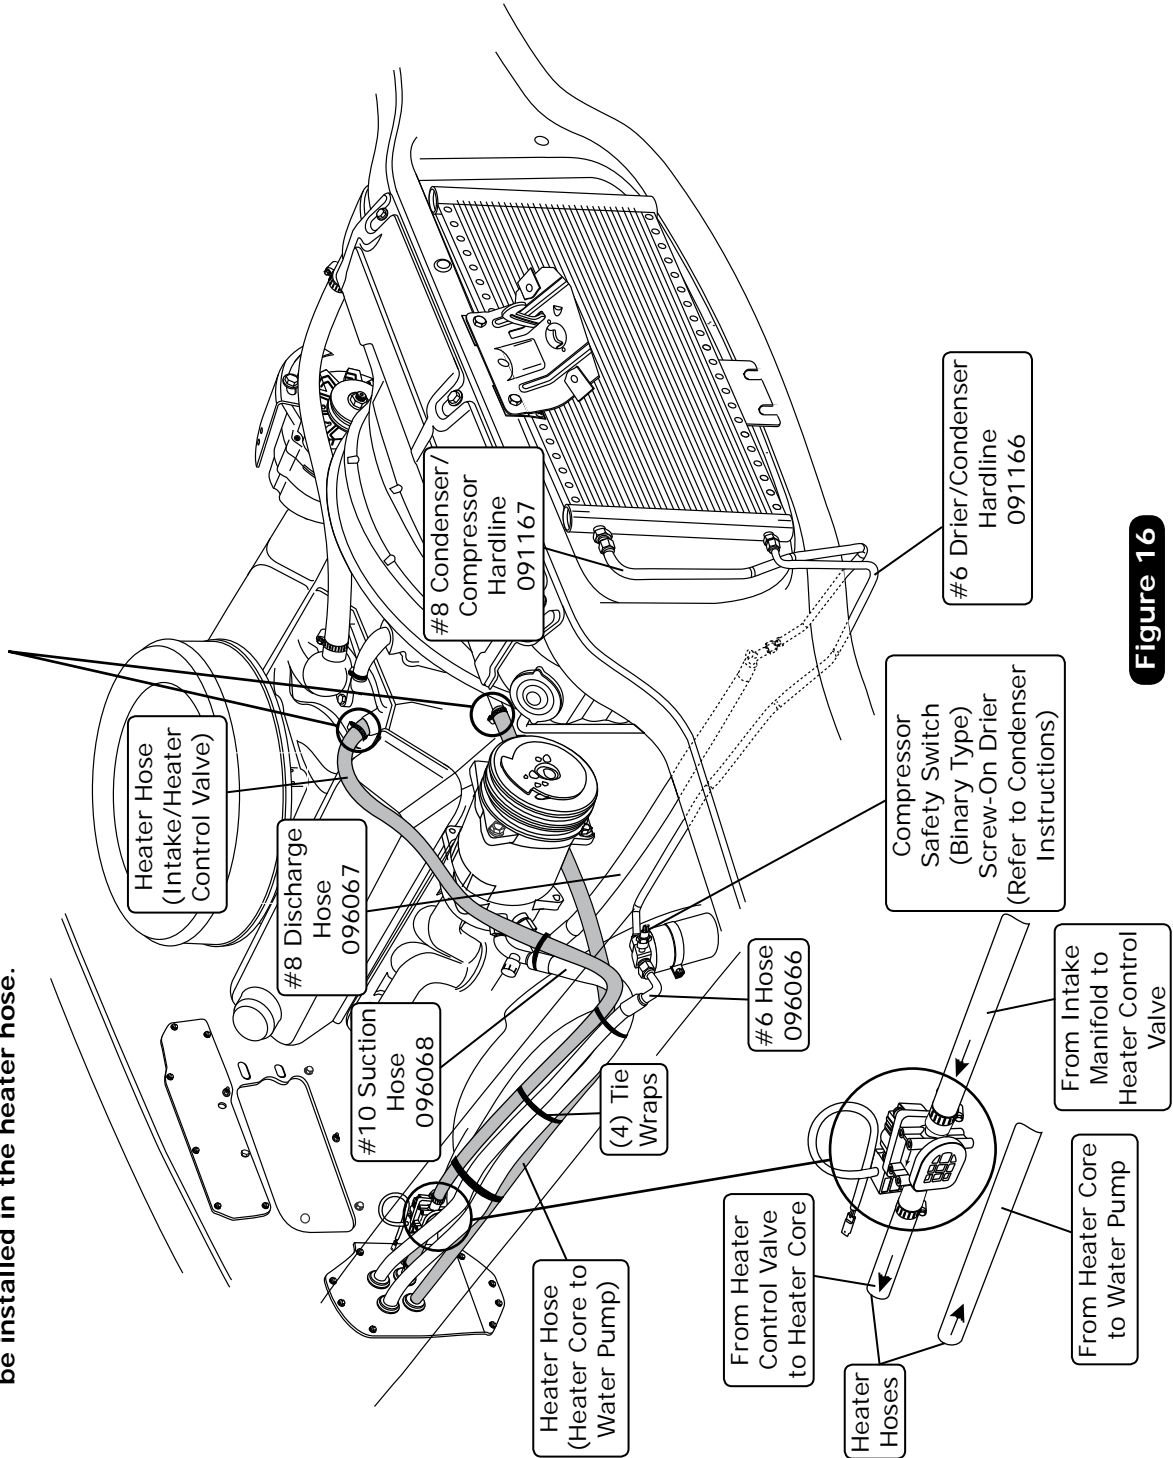

Figure 16
1. Locate the #8 compressor A/C hose. Lubricate (2) #8 O-rings (See Figure 15, above) and connect the 90° fitting to the #8 discharge port on the compressor. Then route the 45° fitting with service port to the #8 condenser hardline coming through the core support (See Figure 16, Page 15). Tighten each fitting connection as shown in Figure 15, above.
2. Locate the #10 compressor A/C hose. Lubricate (2) #10 O-rings (See Figure 15, above) and connect the 45° fitting with service port to the #10 suction port on the compressor. Then route the 90° fitting to the #10 fitting on the evaporator (See Figure 12, Page 13, and Figure 16, Page 15). Tighten each fitting connection as shown in Figure 15, above.
3. Locate the #6 evaporator A/C hose. Lubricate (2) #6 O-rings (See Figure 15, above) and connect the 90° fitting to the drier. Then route the 90° fitting to the #6 fitting on the evaporator (See Figure 12, Page 13, and Figure 16, Page 15). Tighten each fitting connection as shown in Figure 15, above.
1. Route a piece of heater hose from the water pump to the left heater core fitting as shown in Figure 11, Page 12, and Figure 16, below. Secure using hose clamps.
2. Route a piece of heater hose from the intake to the heater control valve, and from the heater control valve to the right heater core fitting as shown in Figure 11, Page 12, and Figure 16, below. **NOTE: Install the heater control valve in line with the intake manifold (pressure side) heater hose, and secure using hose clamps. Also note proper flow direction.**